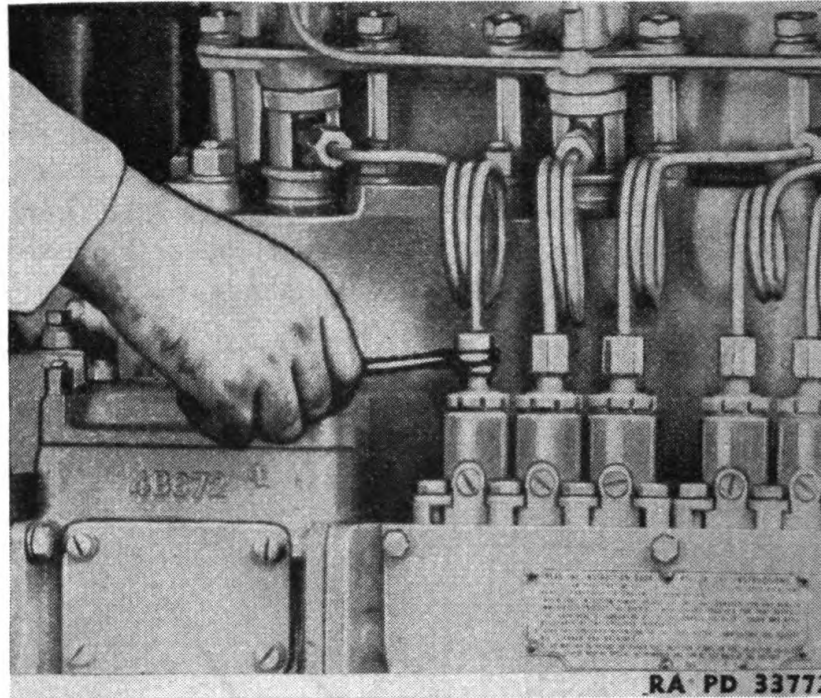
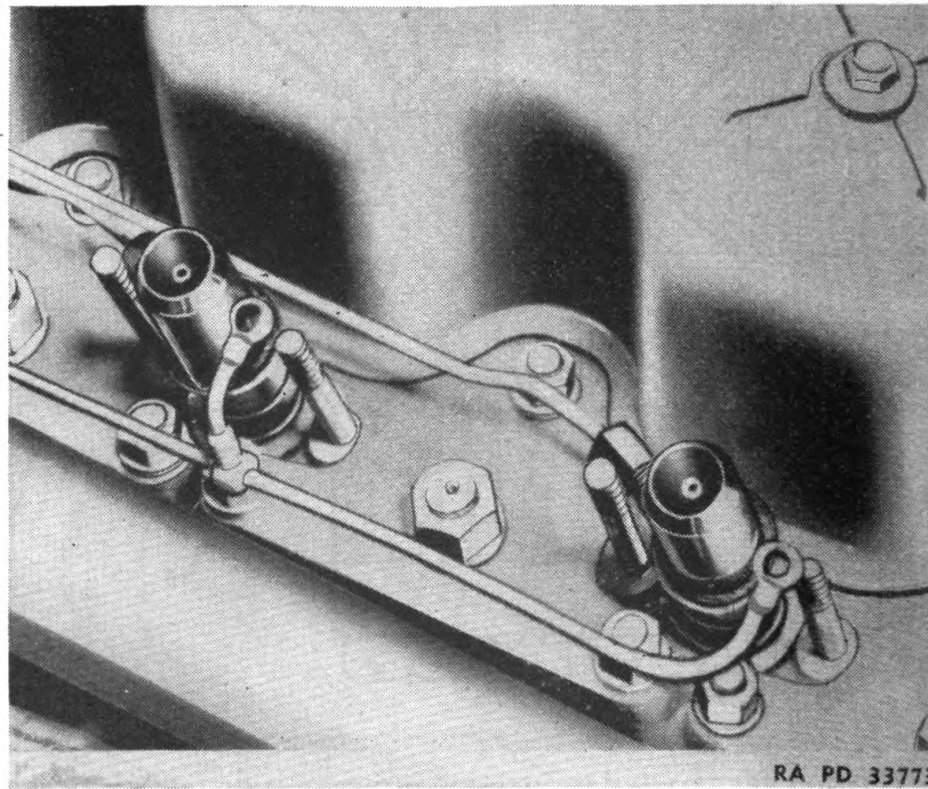
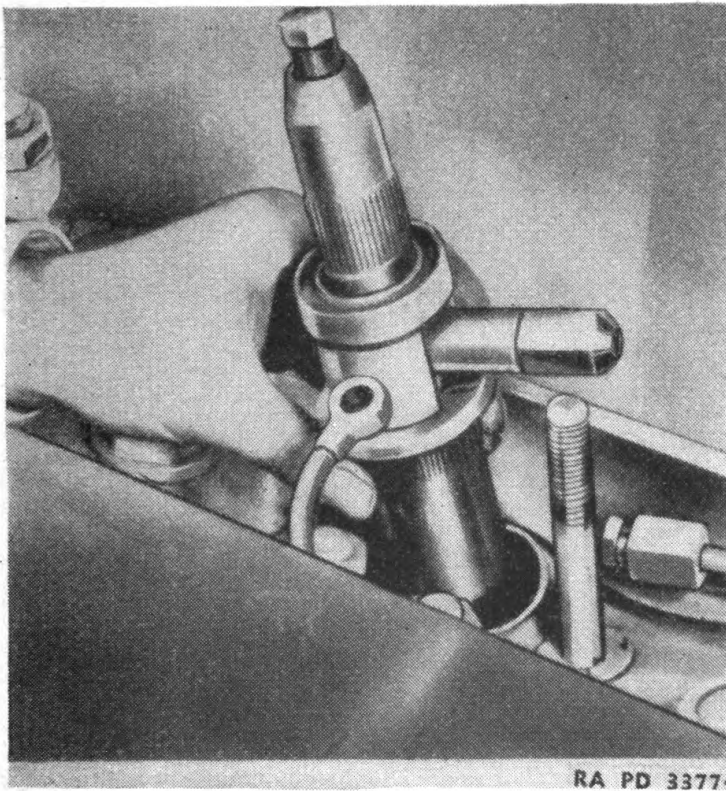

FIGURE 51.—Checking fuel injection equipment.
FIGURE 52.—Checking fuel injection valves.
FIGURE 53.—Removal of fuel injection valve.
(1) With the engine running at a speed that makes the irregularity most pronounced, loosen fuel line nut (fig. 51) just above fuel pump sufficiently to “cut-out” the cylinder. Check each cylinder in the same manner. If one is found where loosening makes no difference in the operation of the engine, probably the valve and pump on that cylinder only need be tested.
(2) Irregular engine operation and smoking may be caused by a faulty injection valve. Hard starting and irregular operation may be the result of a weak pump not supplying sufficient fuel.
b. Testing fuel injection valve.—Before testing a fuel injection valve, clean all dust and dirt from the valve and adjacent areas; then disconnect fuel injection line and fuel drain line and remove the hold-down nuts that keep the valve in place (fig. 53). Turn the valve in a horizontal position if possible or upside down (fig. 52) and connect the fuel line again.
(1) Before testing the valve, loosen the line nuts above each pump not being tested to prevent fuel being injected into the cylinders.
(2) Start the starting engine, and with the Diesel engine compression release lever in the “start” position, engage starter pinion and clutch. If the starting engine is operated slightly above its low idle speed, the Diesel engine will be turned sufficiently fast to insure an accurate check on the spray characteristics of the valve.